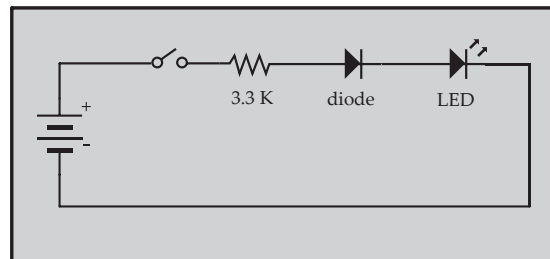

Figure 10.
1. Examine the schematic diagram in Figure 10 carefully before working with the breadboards.